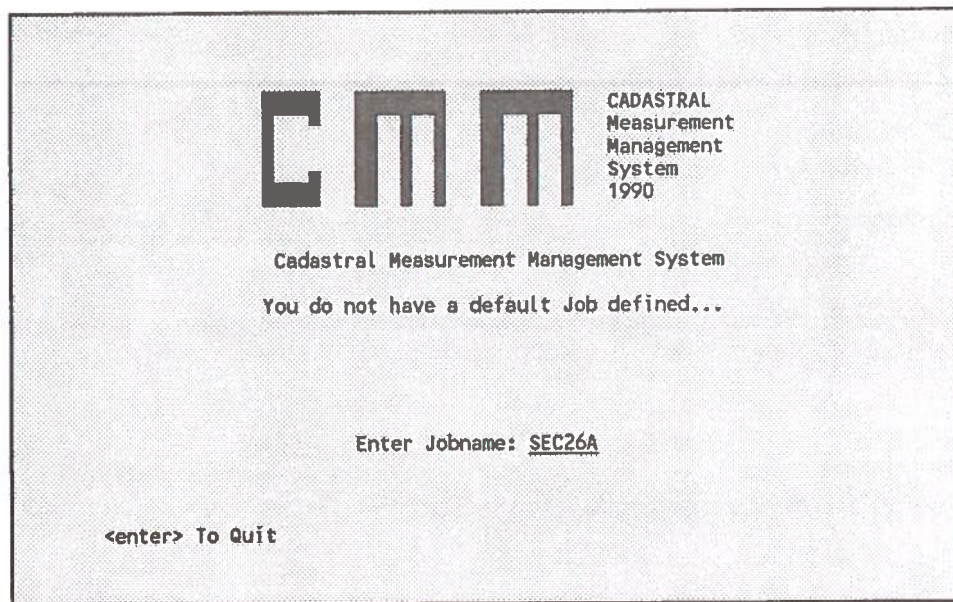
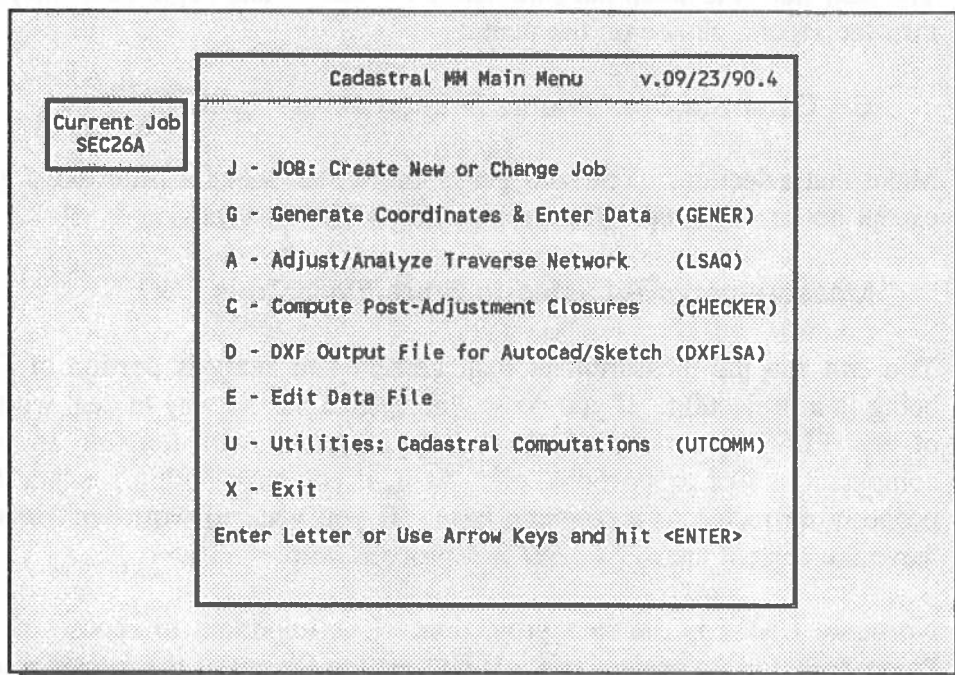

Figure 3 -- Introduction Screen for your first job.
Figure 4 - Cadastral Measurement Management Main Menu
- 2) If you don't see the screen shown in Figure 3, skip to 3). You will only get the Screen in Figure 2 if this is the very first time you have run the system. This occurs whenever a file named **TEMP.JOB** does not exist. This file stores the default job name. Otherwise you should see the screen show in Figure 4.
- 3) You should now see the Cadastral Measurement Management Main Menu roughly as shown in Figure 4. This menu covers the primary measurement processing programs.